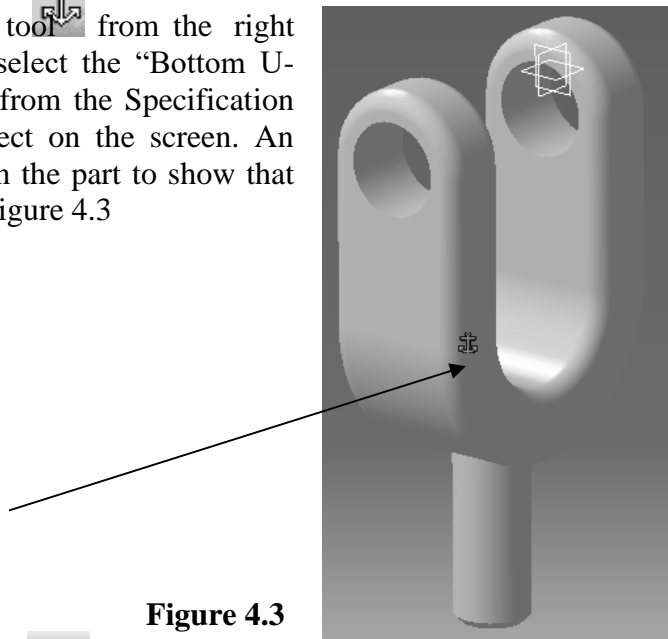

Figure 4.3
- 2.1 Select the Fix Component tool  from the right side of the screen and then select the “Bottom U-Joint part. It can be selected from the Specification Tree or by selecting the object on the screen. An Anchor symbol will appear on the part to show that it has been fixed as shown in figure 4.3